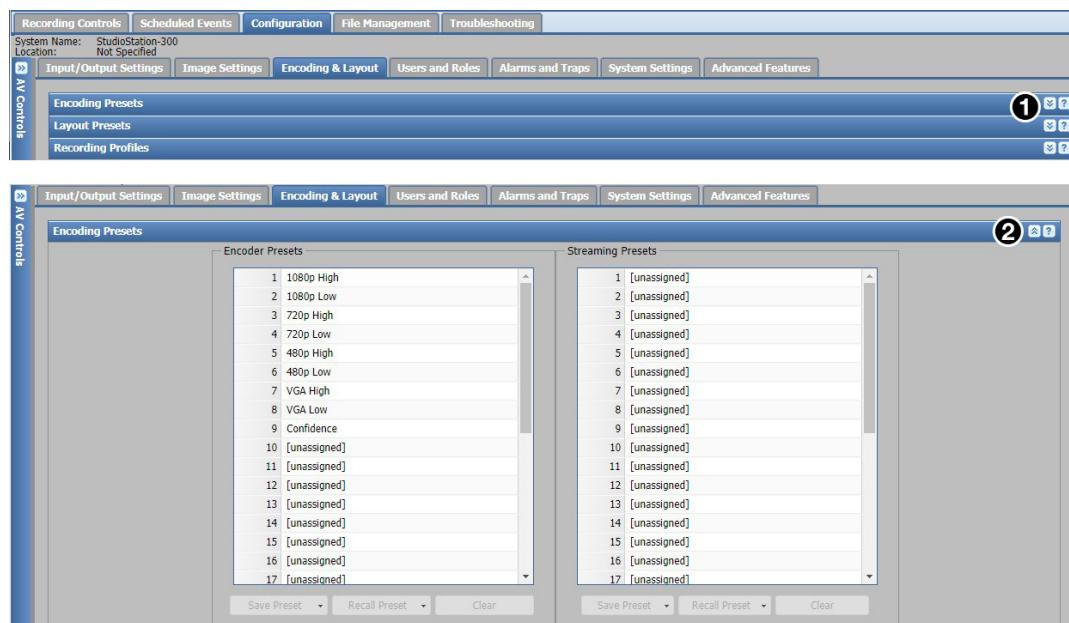

Figure 29. Collapsed and Expanded Panes
Click the **Expand** (see figure 29, ①) arrow button on the right side of a pane. The pane opens to a full view, or as much as possible with the current display settings.